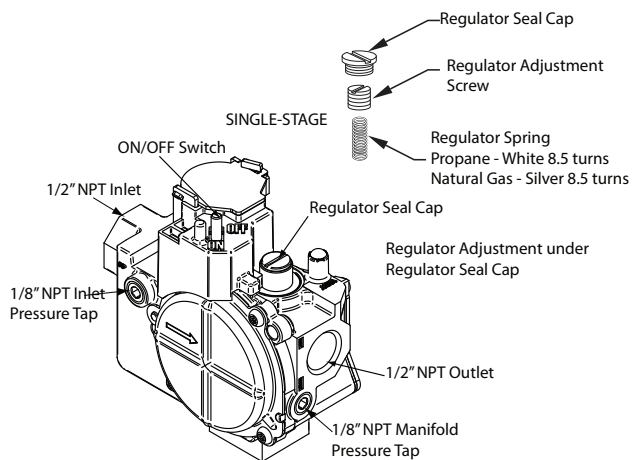

Fig. 10 - Single-stage valve
1. Refer to Fig. 10.
3. Remove caps that conceal adjustment screws for the gas-valve regulators. (See Fig. 10.)
8. Turn the adjusting screw clockwise (in) 8.5 full turns. This will increase the manifold pressure closer to the propane set point. (See Fig. 10.)
1. Verify manometer is connected to inlet pressure tap on gas valve. (See Fig. 10.)